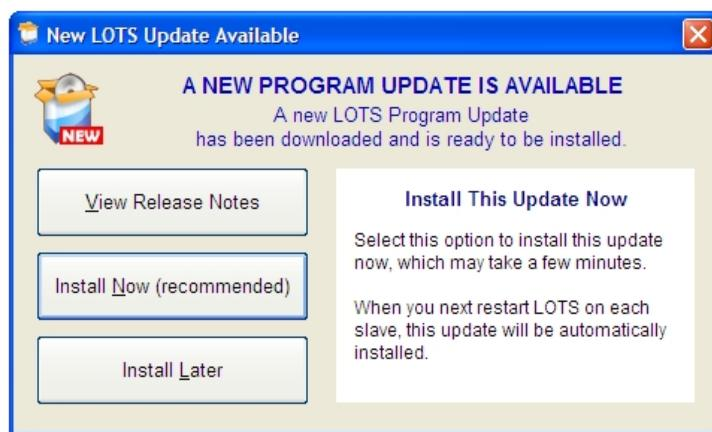

Figure 420
- When a Program Update is detected you will see Figure 420 when you start up LOTS.
Note: If you choose to 'Install Later' on the Master, the same window (Figure 420) will appear each time you start up LOTS until you install the update.